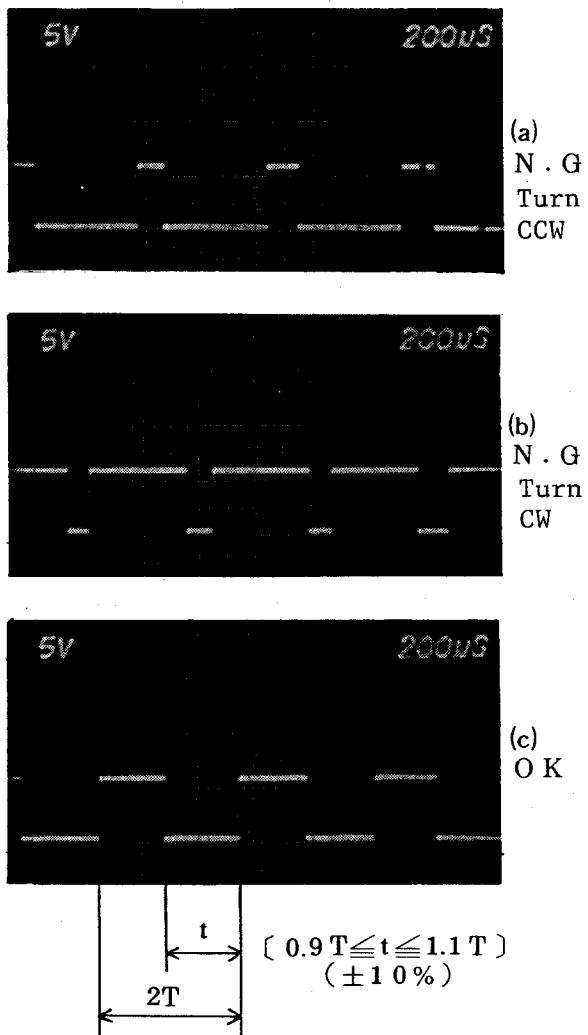

Fig. 3
6. Adjust VR7 so the waveform is like figure 3 (C).